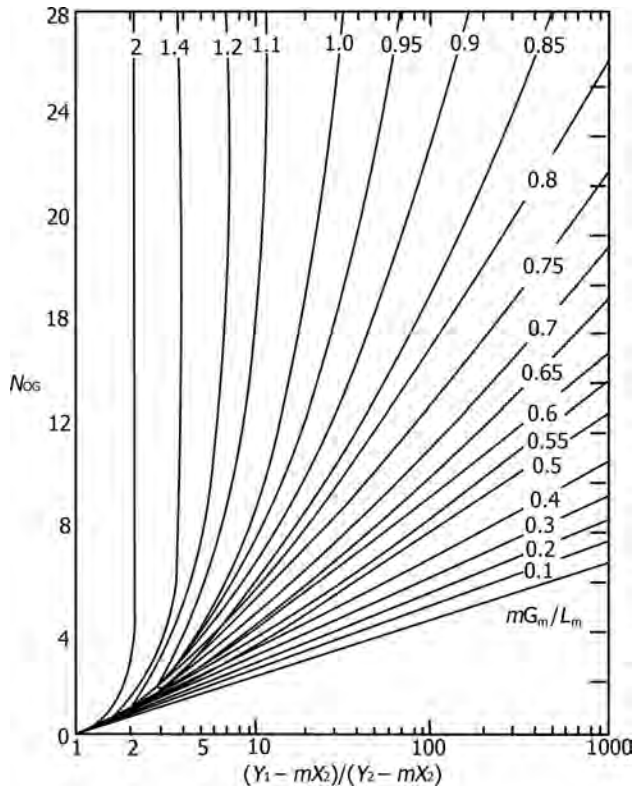

FIGURE 17.7 Colburn diagram for estimation of N_{OG} .
- The following Colburn plot (Figure 17.7) or the analytical form, Equation 17.41, can be used to estimate Z .